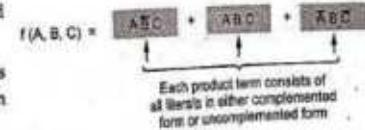

Fig. 4.1.1 Standard SOP form
- One standard sum of products expression is as shown in Fig. 4.1.1.